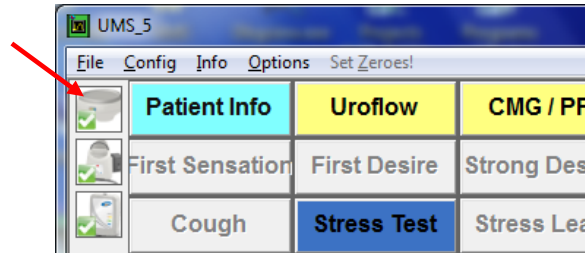

Figure 105: Access Goby Device Manager – Urocap IV
2. Start the UDS120 Goby software and double-click the **Urocap™ IV** icon in the main window to open the *Goby Device Manager* window (Figure 105).